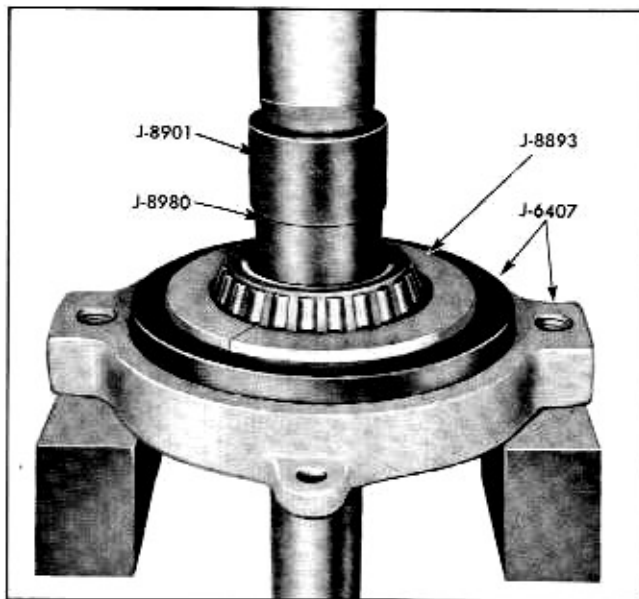

Fig. 4-33 Removing Rear Pinion Bearing (Automatic Shown)
4. Press off rear pinion bearing using tool J-8893 in J-6407 holder. Press on pinion shaft using J-8901 synchro-mesh application, use J-8901 and J-8980 (Fig. 4-33) on automatic application.